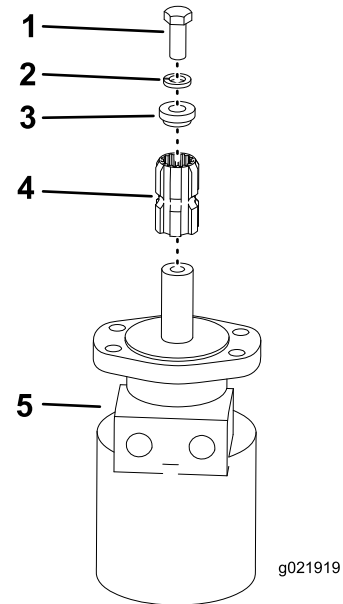

Figure 2
- Grease the shaft of the motor and place the adapter onto the motor (Figure 2).